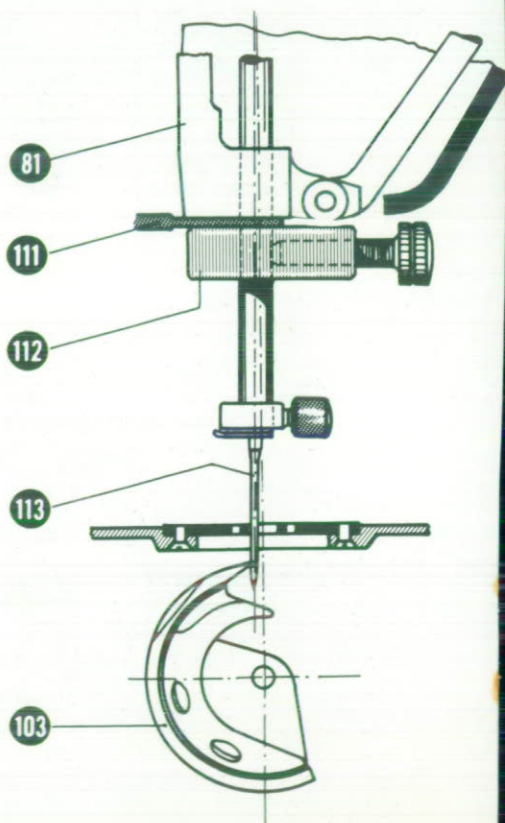

Fig. 37
clamp (Fig. 37). Next extract gauge and raise needle bar until clamp touches the support (81).